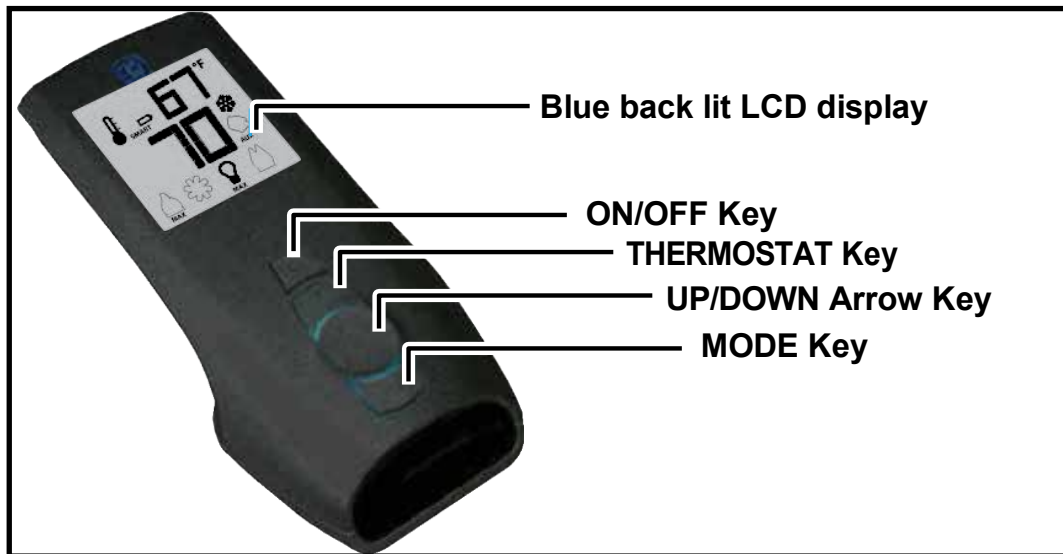
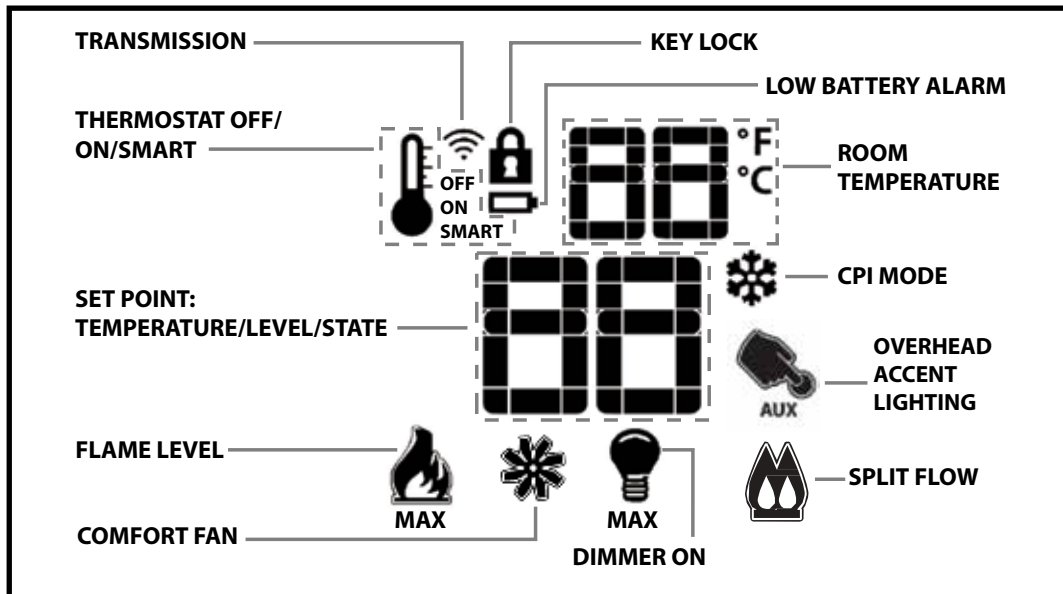
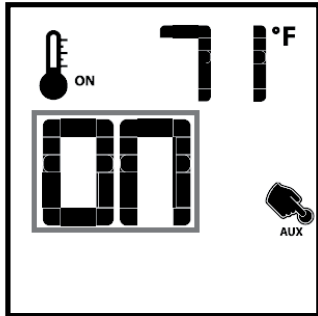
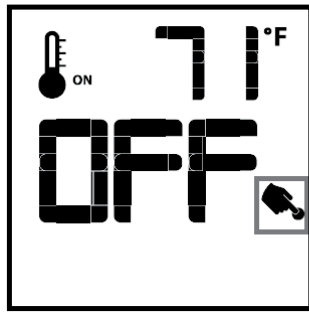

Figure 1: Proflame 2 handset.
Figure 2: Proflame 2 LCD display.
Figure 13: Top light On.
Figure 14: Top light off.
The Proflame 2 Transmitter uses a streamline design with a simple button layout and informative LCD display Figure 1. The transmitter is powered by 3 AAA type batteries. A Mode key is provided to Index between the features and a Thermostat key is used to turn on/off or index through thermostat functions (Figure 1) and (Figure 2).
2. Install 3 AAA batteries into the Proflame2 Remote Transmitter (Figure 1).
To activate this function, press the thermostat key (Figure 1). The LCD display on the remote transmitter will change to show that the room thermostat is “ON” and the set temperature is now displayed (Figure 9). To adjust the set point, press the up or down arrow keys until the desired set point temperature is displayed on the LCD screen of the remote transmitter.
To activate this function, press the THERMOSTAT key (Figure 1) until the word “SMART” appears to the right of the temperature bulb graphic (Figure 10). To adjust the set point, press the up or down arrow keys until the desired set point temperature is displayed on the LCD screen of the remote transmitter (Figure 11).
To activate this function use the Mode Key (Figure 1) to index to the fan control icon (Figure 12). Use the Up/Down Arrow Keys (Figure 1) to turn on, off or adjust the fan speed (Figure 12). A single “beep” will confirm reception of the command.
To activate this function, use the Mode Key, (Figure 1) to index to the AUX icon (Figure 13). Pressing the Up Arrow Key will turn the light on. Pressing the Down Arrow Key will turn the light off (Figure 14). A single “beep” will confirm the reception of the command.
With the system in “OFF” position press the Mode Key (Figure 1) to index to the CPI mode icon (Figure 15). Pressing the Up Arrow Key will activate the Continuous Pilot Ignition mode (CPI). Pressing the Down Arrow Key will return to IPI. A single “beep” will confirm the reception of the command.